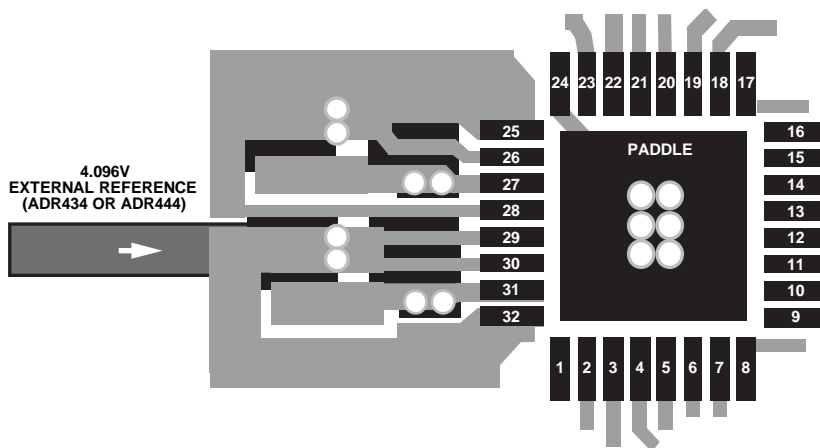

Figure 43. PCB Layout and Decoupling Recommendations for Pin 24 to Pin 32
- Connect the paddle to the ground plane of the board using multiple vias, as shown in Figure 43.
Figure 43 shows an example of the recommended layout for the underside of the AD7626 device. Note the extended signal trace connections and the outline of the capacitors decoupling the signals applied to the REF pins (Pin 29, Pin 30, and Pin 32) and to the CAP2 pins (Pin 25, Pin 26, and Pin 28).